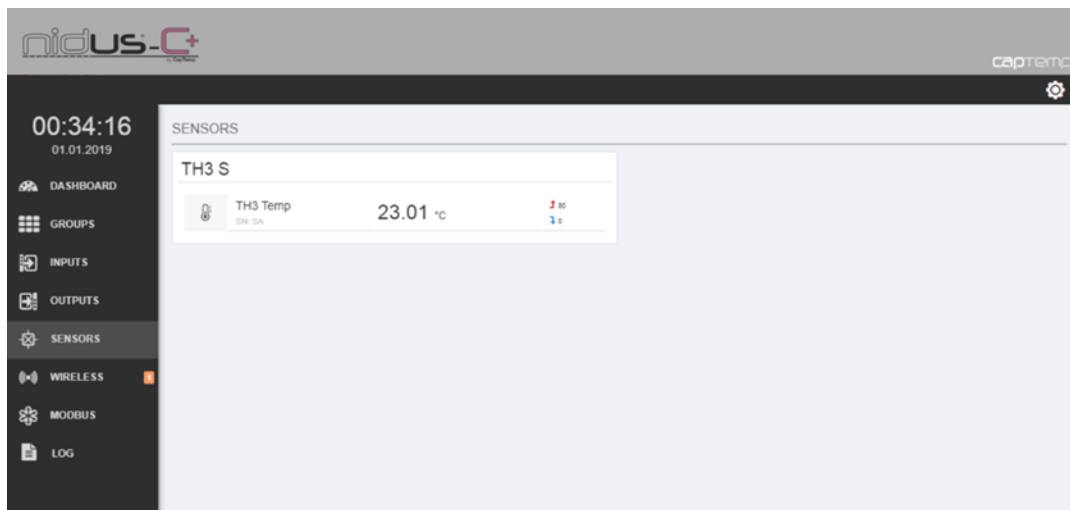

Figure 38 - Nidus main page: "Sensors" tab
2. To see the *Airo* values, go to the “Sensors” tab (Figure 38)